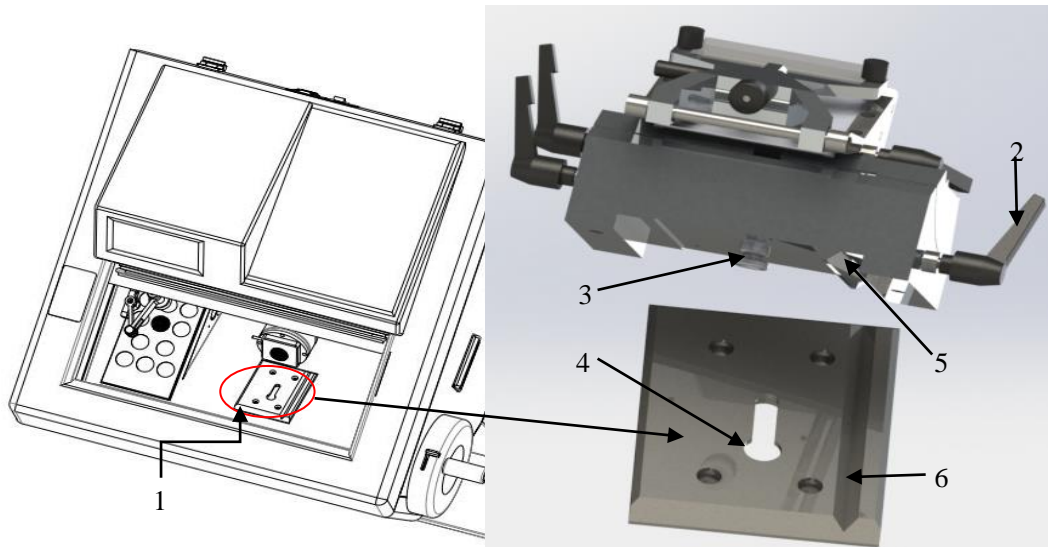

Fig 17
2.Handwheel lock	When the hand wheel is locked, the icon is highlighted, or the icon is dark. The fig 17 shows the handwheel is locked.
As showed in fig 17, slide the blade holder along the track in cryo chamber, turn the fixed lever 2 to horizon position to lock the blade holder. The blade is close to specimen clamp, please do as the steps: